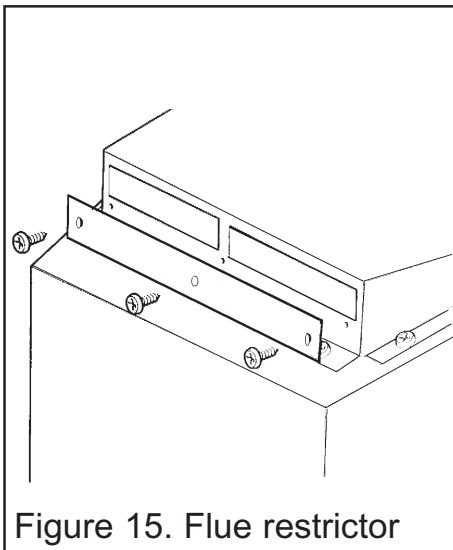

Figure 15. Flue restrictor
6. This appliance is supplied with a flue restrictor for use where the flue draught is excessive. Generally we recommend the restrictor is NOT fitted where a precast flue, metal flue box or a flue liner is used, however, certain flues may work sufficiently to warrant its use. There may however, be circumstances where fitting the restrictor causes the fire to fail the spillage test. In such cases the restrictor will have to be removed. After removal conduct the spillage check again. The restrictor is packed loose with the appliance and is fixed with three screws (See figure 15).